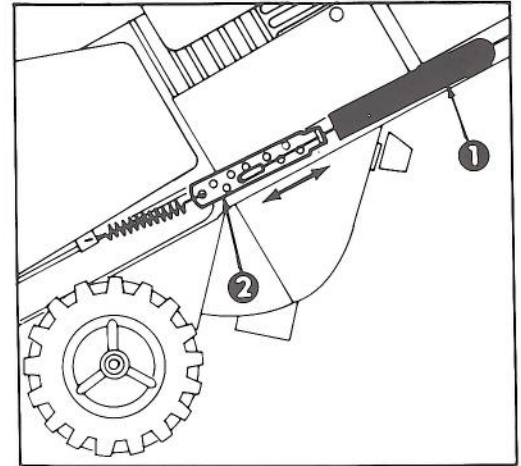

Figure 10
3. ADJUST CABLE-(Fig. 10) — Unhook upper cable end from hole in control bar bracket. Slide spring cover up cable to expose cable adjuster. Unhook cable end from cable adjuster and reposition in a higher or lower hole on adjuster as required to attain proper gap of 1/16-1/8". Reinstall upper cable end into rear hole (hole with arrow) in control bar bracket. Slide spring cover over cable adjuster and re-check adjustment.